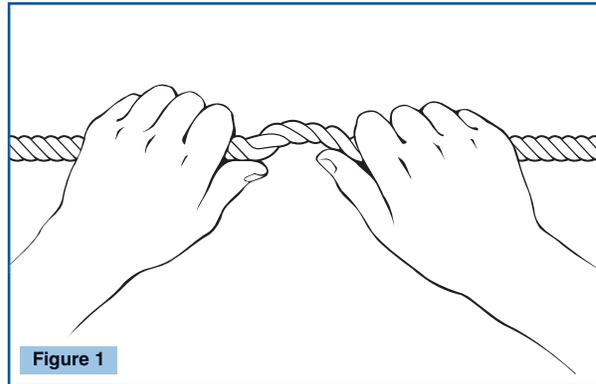

Figure 1
- 1. Inspect the lanyard.** Inspect entire lanyard for broken strands by twisting the rope slightly in the opposite direction of the natural twist. Check that lanyard is free of burns, cuts, abrasions, knots, and that splicings show no signs of unraveling, especially near thimble. Inspect lanyard for brittle, shriveled, or hard spots that indicate exposure to chemicals or heat. (See Fig. 1)